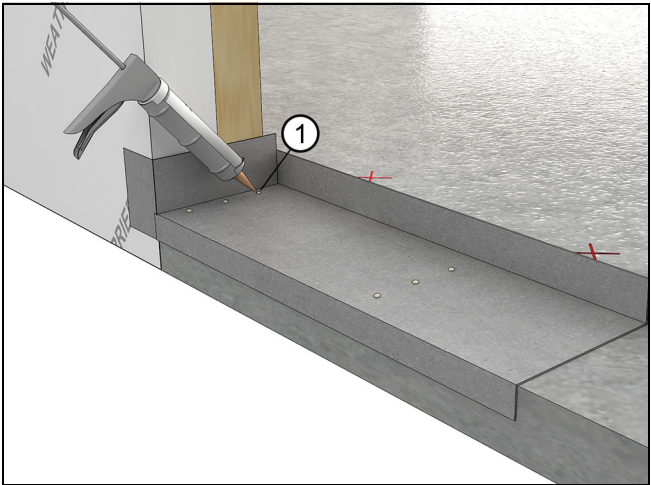

Figure 9
5. Inject the pre-drilled holes with sealant. See Figure 9.